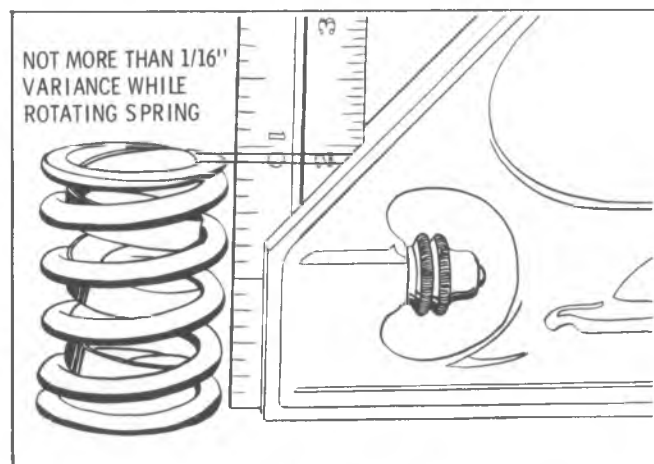

Fig. E-34—Checking Valve Spring
a. Occasionally this noise can be eliminated by rotating the valve spring and valve. Crank engine until noisy valve is off its seat. Rotate spring. This will also rotate valve. Repeat until valve becomes quiet. If correction is obtained, check for an off square valve spring. If spring is off square more than 1/16" in free position, replace spring. (Fig. E-34)